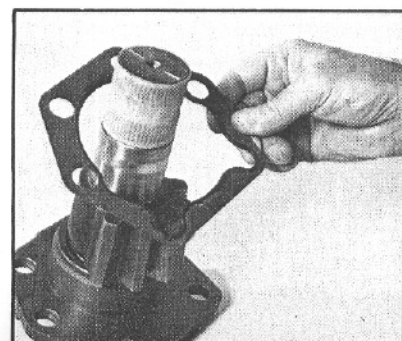

Figure 137
36. Apply clean grease to the new side cover gasket (57), and assemble it onto the side cover (58) (FIG. 137). Apply enough grease to hold the gasket in place.